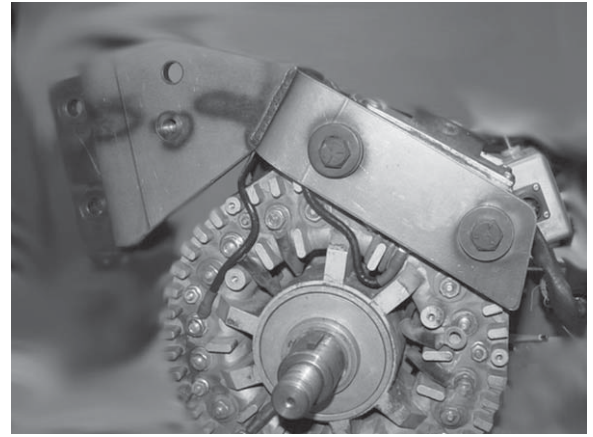

FIGURE 4
6. Install C703 alternator and new mounting bracket. See Figure 4. Make sure there is enough clearance between mounting bracket and drive end housing to prevent damage to wires. See Figure 5.